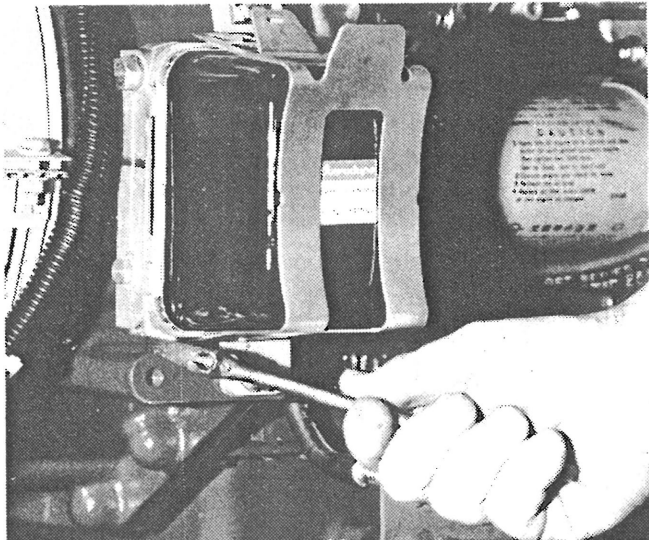

Figure 46 - Drain secondary fuel filter
- a. Drain if necessary (see figure 46).